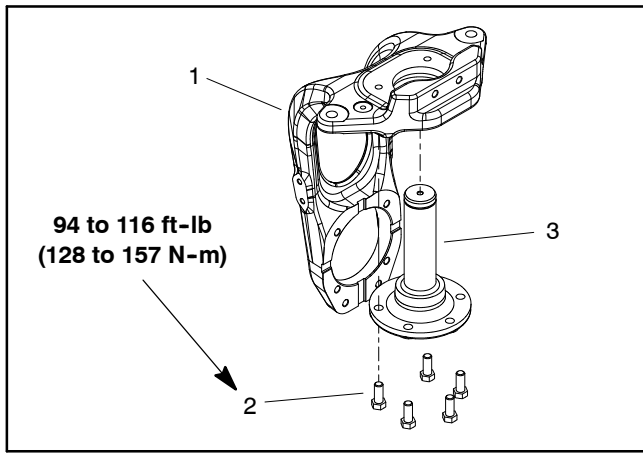

Figure 26
8. Remove the flange head screw (item 21), spindle cap (item 20) and retaining ring (item 19) that secure the steering fork shaft into the axle tube. Slide the steering fork out of the axle tube. Locate and retrieve thrust washers (items 7 and 11) from steering fork spindle.
9. Thoroughly clean the steering fork spindle. Inspect the shaft for wear and replace steering fork spindle if shaft is worn or damaged (Fig. 26). If spindle was removed from steering fork, torque cap screws from **94 to 116 ft-lb (128 to 157 N-m)** during assembly.